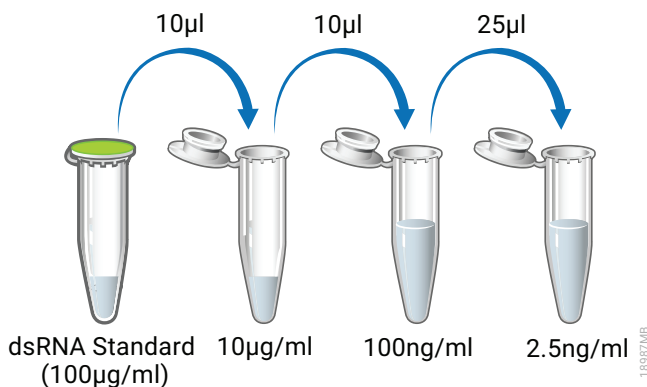

Figure 2. Dilution scheme for dsRNA Standard.
4. Using sterile polypropylene tubes, prepare serial dilutions to achieve a 2.5ng/ml solution in Assay Buffer as follows (see Figure 2):